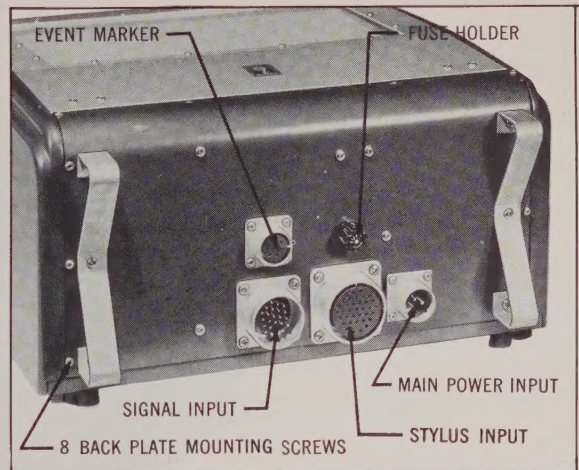

Fig. 3. View of Rear Panel
EVENT MARKER..... Connects either or both accessory Event Markers to an outside (customer supplied) shorting switch. 7 pin female AN connector. Fig. 3.
SIGNAL INPUT..... Signal input to each of the individual penmotors. 24 pin male AN connector. Fig. 3.
STYLUS INPUT..... Connects oscillograph with accessory Power Supply, Model BL-993 (modified), to supply power for electric writing where 115 v, 60 cps is available. 35 pin female AN connector. Fig. 3.
MAIN POWER INPUT..... Connects oscillograph with main power source (12 or 28 volts, D.C.) 3 pin male AN connector. Fig. 3.
2. Connect main power input cable to an appropriate power source (12 or 28 volts, D.C.) and to the rear panel of the oscillograph at the AN terminal marked "MAIN POWER INPUT". Fig. 3.
3. Connect the SIGNAL INPUT terminal (Fig. 3.) with the Junction Box by means of the 25 ft. cable supplied.
7. Connect the accessory Power Supply, Model BL-993 (modified), to the STYLUS INPUT (AN) connector on the rear panel. Fig. 3.
15. Connect the SIGNAL INPUT terminal (Fig. 3) with the Junction Box by means of the cable supplied.
To operate the accessory Event Markers it is necessary to solder two leads from switch (customer supplied) to the male portion of the AN connector matching the female AN connector on the back of the oscillograph. Fig. 3. Pin "G" of the connector is the "hot" or common pin while pin "A" completes the circuit to the Right Event Marker and pin "F" completes the circuit to the Left Event Marker. After soldering and re-assembling the male portion of the connector, it is only necessary to connect the cable to the oscillograph. The Event Markers will now operate automatically or manually as determined by the type of switch selected and installed by the operator.